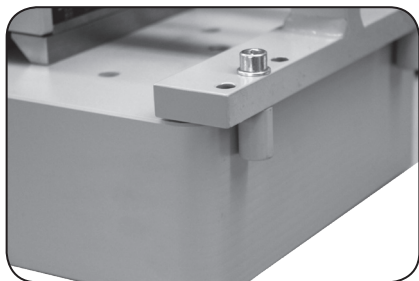

Fig. 1
- The workpiece must always properly seated against the vertical stop during lifting. (Fig.1) The displacement force must be collected from the stop. You always must set the magnet centered in the focus of the workpiece, and tighten on the bearing bolts according to the workpiece geometry symmetrically. (Fig. 2)
4. The stops must rest firmly on the Lower edge of the workpiece to prevent a slippage of the load in vertical operation. (Fig.1) If this is the case, turn ON the magnet (Notice FX operating instructions)